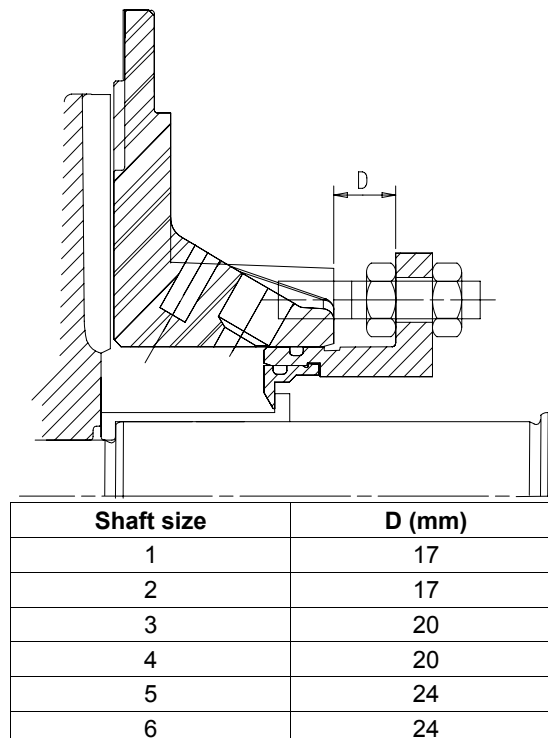

Fig. 4
- 9 When the exchange unit is fully assembled, pull the thrust ring (475.21) and the static seal (435.21) against the shaft wearing sleeve (524.21). The assembly groove (3 mm x 0.5 mm) in the thrust ring comes out 0.5 mm from the stuffing box housing end. Tighten the nuts (920.21) by hand so that the thrust ring is precisely aligned with the shaft. Tighten the locking nuts. The distance between the face of the case cover and the thrust ring is according to Fig. 4.